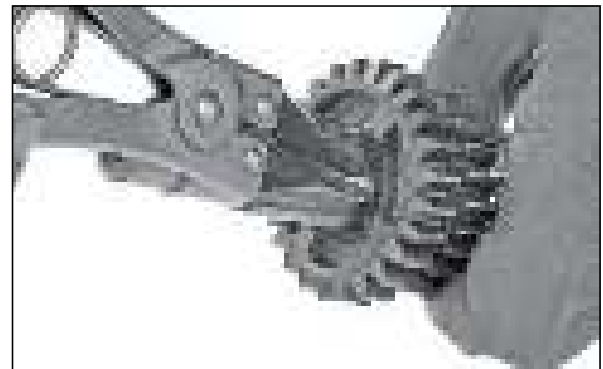

Fig. 3.170
- Remove the circlip (20x1.2). (Fig. 3.170)